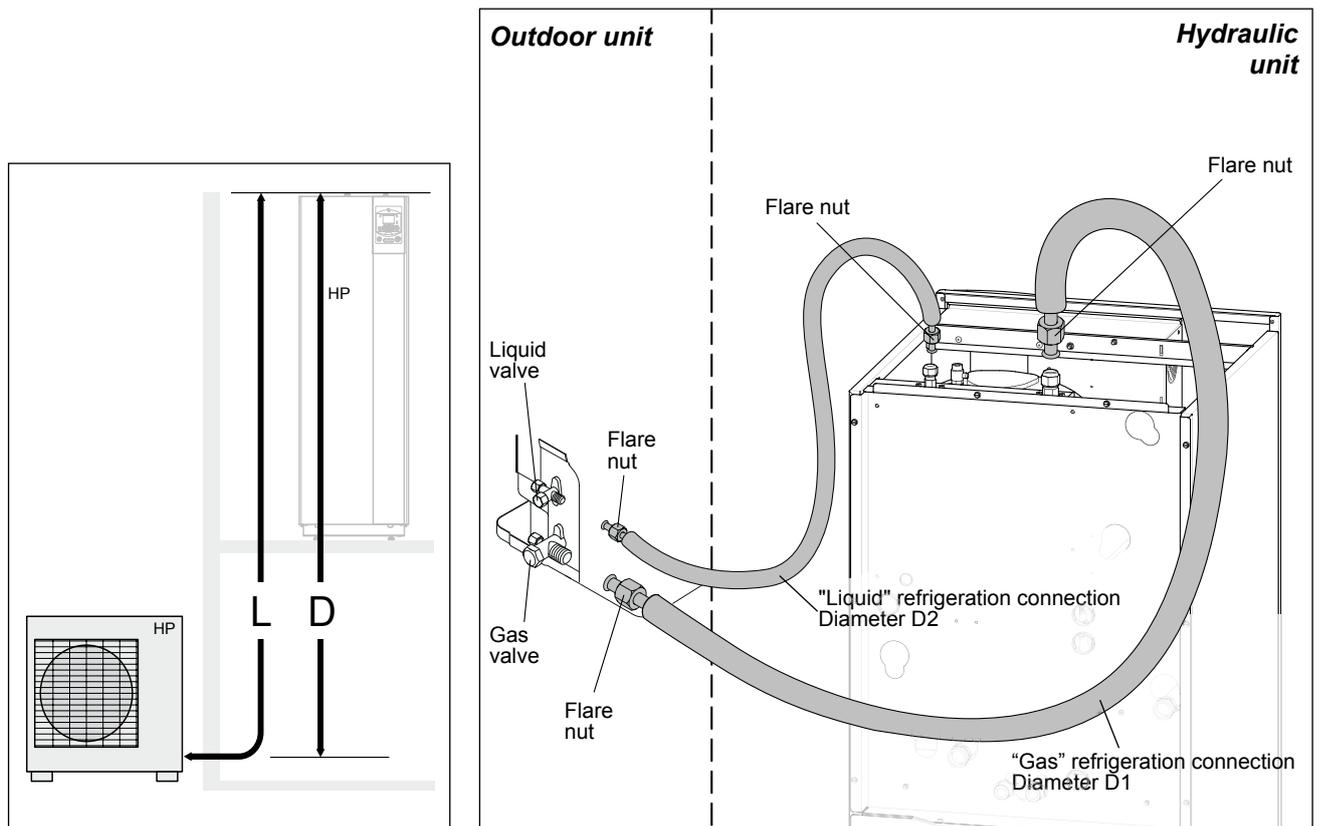

figure 16 - Connecting the flared connections (Pipe diameters and permissible lengths)
Observe the maximum and minimum distances between the hydraulic unit and the outdoor unit (figure 16, page 17), the guarantee of the performances and the system's service life depend on this.
Comply with the pipe diameters and the permitted pipe lengths (figure 16).
- Depending on the case, connect an adapter (reducer) 1/4"- 3/8" or 1/2"- 5/8" (see figure 16, page 17).